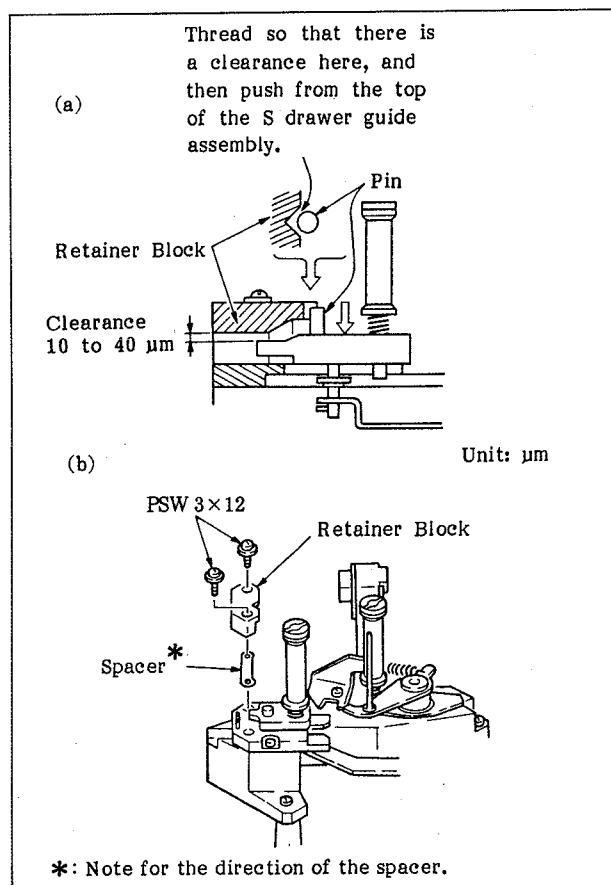

Fig. 6-50 Adjustment of the Clearance between the Retainer Block and the S Drawer Block
5. Set in the threading condition so that there is a clearance between the retainer block and the pin on the S drawing of Figure 6-50(a).
6. Check that clearance A between the S drawer block and the retainer block, shown in Fig. 6-50 (a), is 10 to 40μm by using the following spacers. If it is not, adjust it by replacing the spacer, shown in Fig. 6-50, with one of a different thickness.